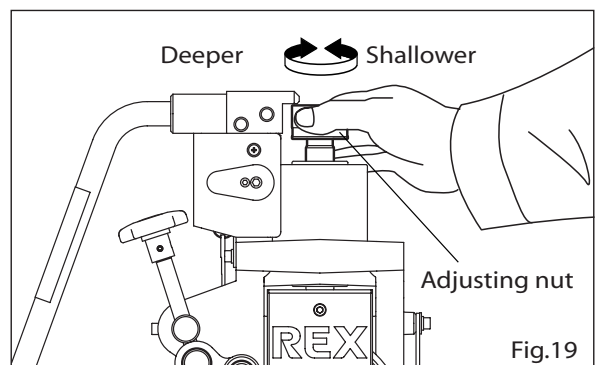

Fig.19
- * One sub-division of the larger divisions on the adjusting nut is equivalent to approximately 0.3 mm. (Fig. 19)